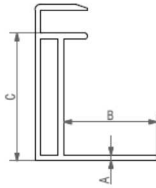

Fig1 : PV frame module specifications
- PV module frame specifications : see Tab1 and Fig1.